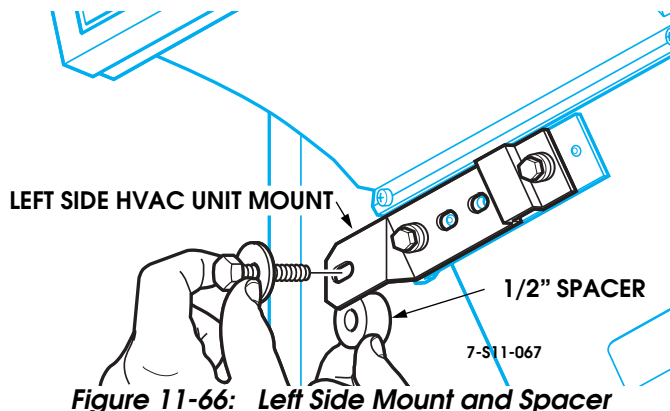

Figure 11-66: Left Side Mount and Spacer
3. Install left hand interior fastener with the 1/2" spacer, it may be necessary to loosen the bracket and slide it left or right to align the hole. Tighten fastener (Figure 11-66).